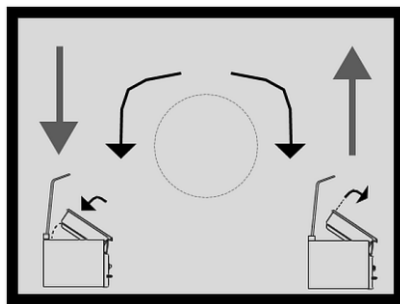

Fig.11
1. To lift, turn the black and white switch (7) to the right
2. Hold the switch in the turned position (Fig. 11).